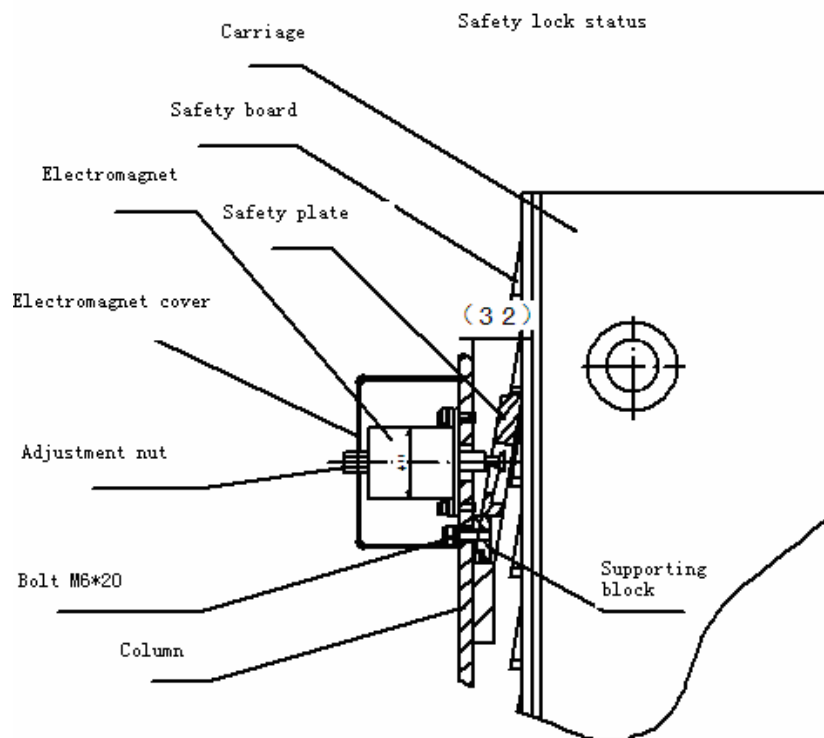

Fig 2e
- Principles of electromagnet safety lock mechanism: The upper end of safety plate always attaches to the safety orifice closely. When the carriage rises, the safety orifice utilizes its inclined angle to push away the safety plate and rises progressively. In case of failure during the moving of the carriage, the rapid falling will occur, then the safety plate will block into the safety orifice, preventing the falling of the carriage (Fig. 3). When the electromagnet is actuated, the safety plate is released for carriage lowering (Fig.2e、 2f)